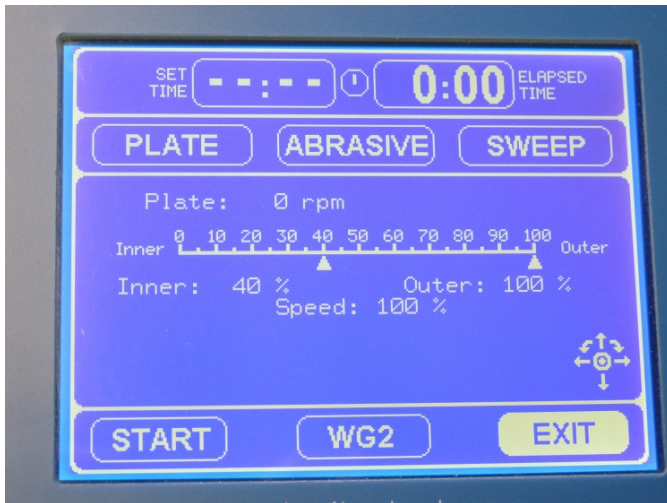

Figure 6
8. The **Operations** (Fig. 6) screen will appear.
- a. If all six carousel posts need to be used it can be rotated around by moving the joystick to the left on the **Operations** screen and selecting **WG2** (Fig. 6).
6. Select **Abrasive** on the **Operations** (Fig. 6) screen.
7. **Set Time** (Fig. 6) to 8 minutes for the first round of polishing.
8. Select **Sweep** (Fig. 6) and press ok; make the **Inner** 40%, **Outer** 100%, and **Speed** 100%.